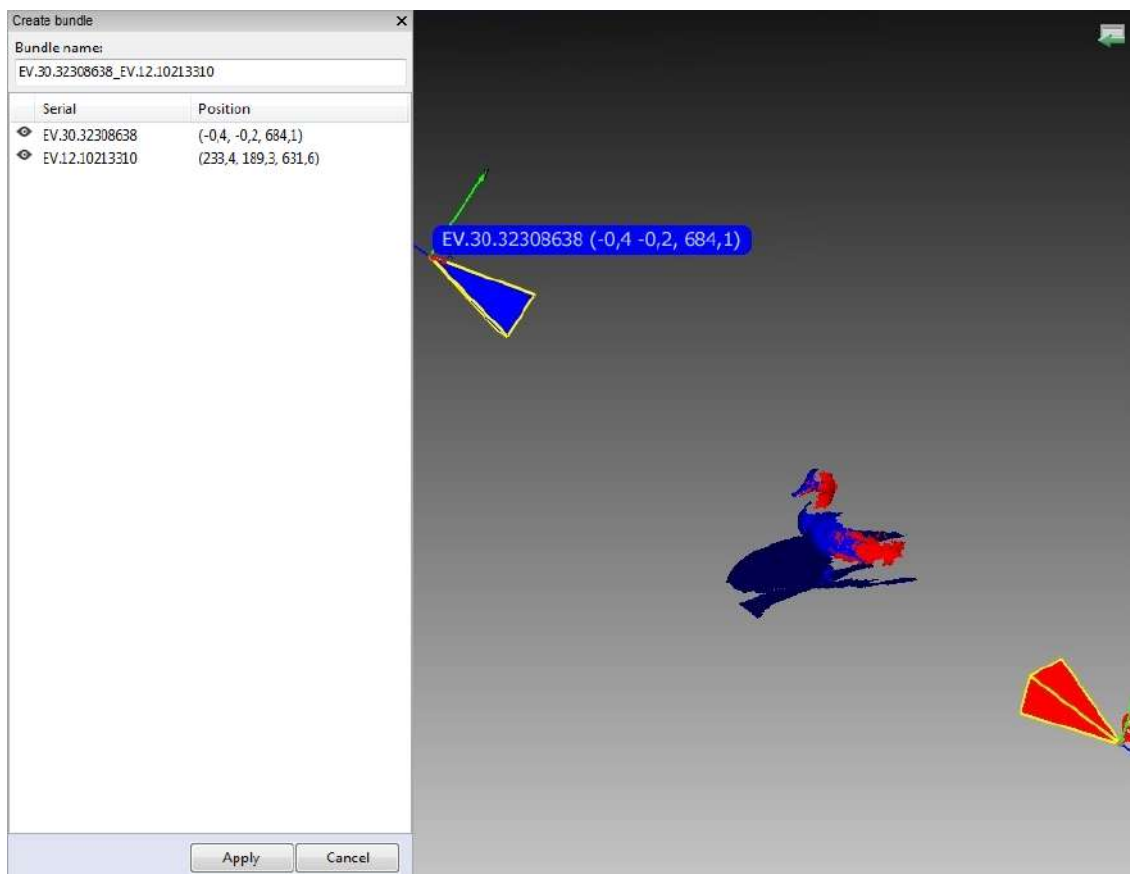

Figure 135: Bundle-creation window.
7. From the menu, select *File* → *Create bundle*. A warning message will appear if you forget to align the scans. Otherwise, the bundle-creation panel will appear (see Figure 135). The *3D View* window will show the selected scans, the position and viewing direction of the scanners (by means of an appropriately colored pyramid), the device ID, and the scanner coordinates. It will display a list of connected devices and corresponding information.